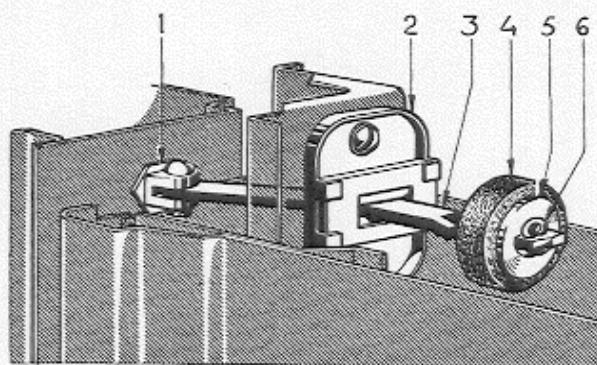

Fig. 28. Door stop
3. Remove the cotter pin (6), the washer (5) and the rubber buffer (4) on the door check as shown in Fig. 28.